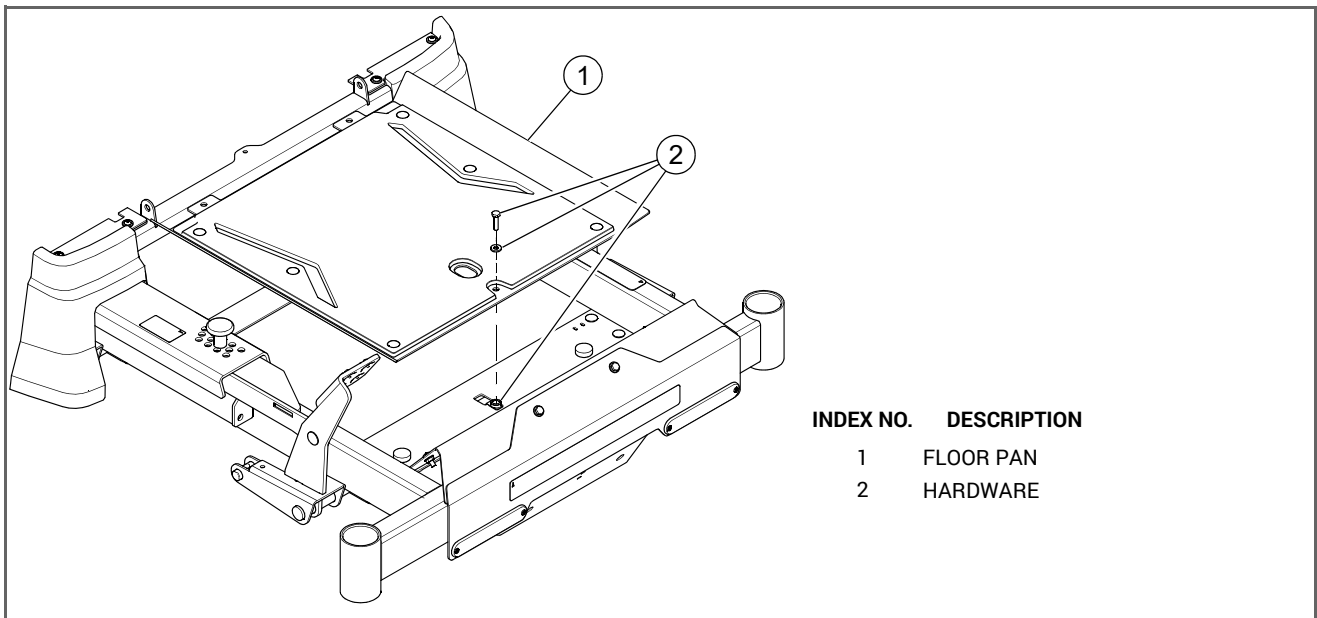

FIG. 3
5. Remove the floor pan. FIG. 3